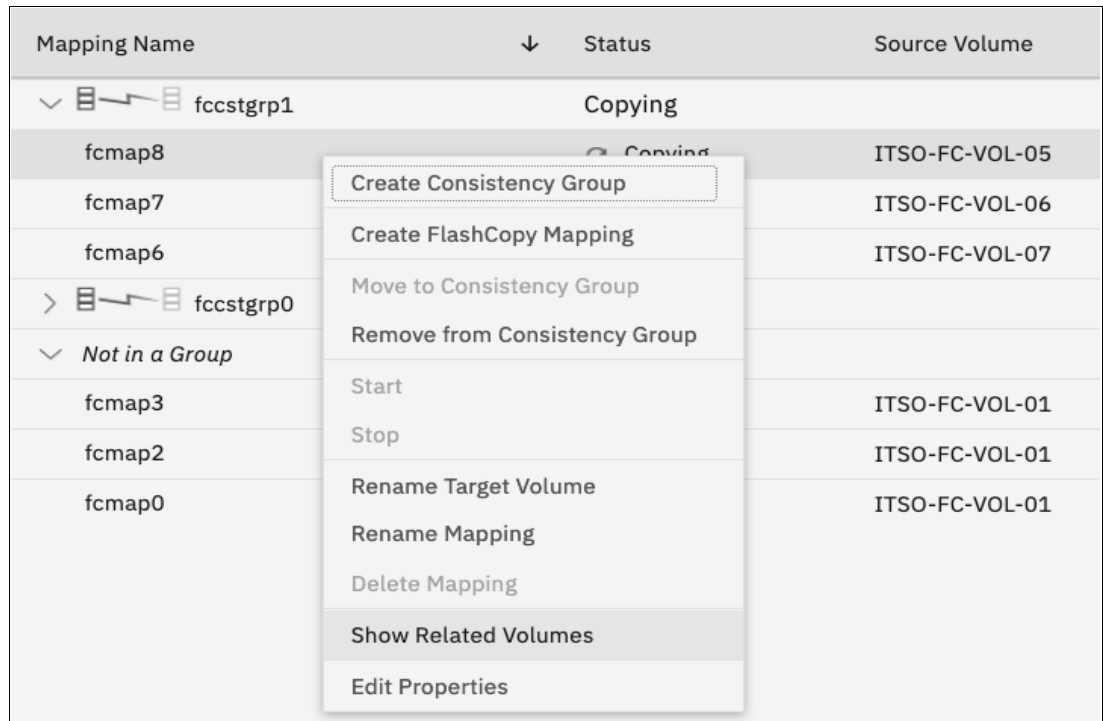

Figure 10-43 Showing related volumes for a mapping, a consistency group or another volume
2. Right-click a FlashCopy mapping and select **Show Related Volumes**, as shown in Figure 10-43. Also, depending on which window you are inside Copy Services, you can right-click at mappings and select **Show Related Volumes**.